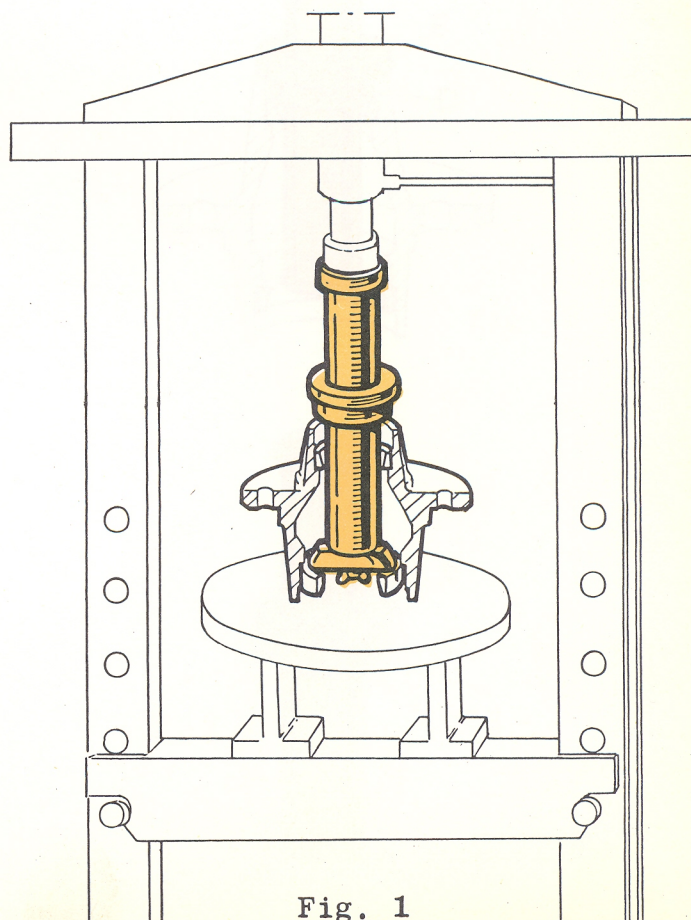

Fig. 1
Withdrawing the inboard bearing cup (fig. 1)
- 4 Place the hub on the press upside down with respect to fig. 1.